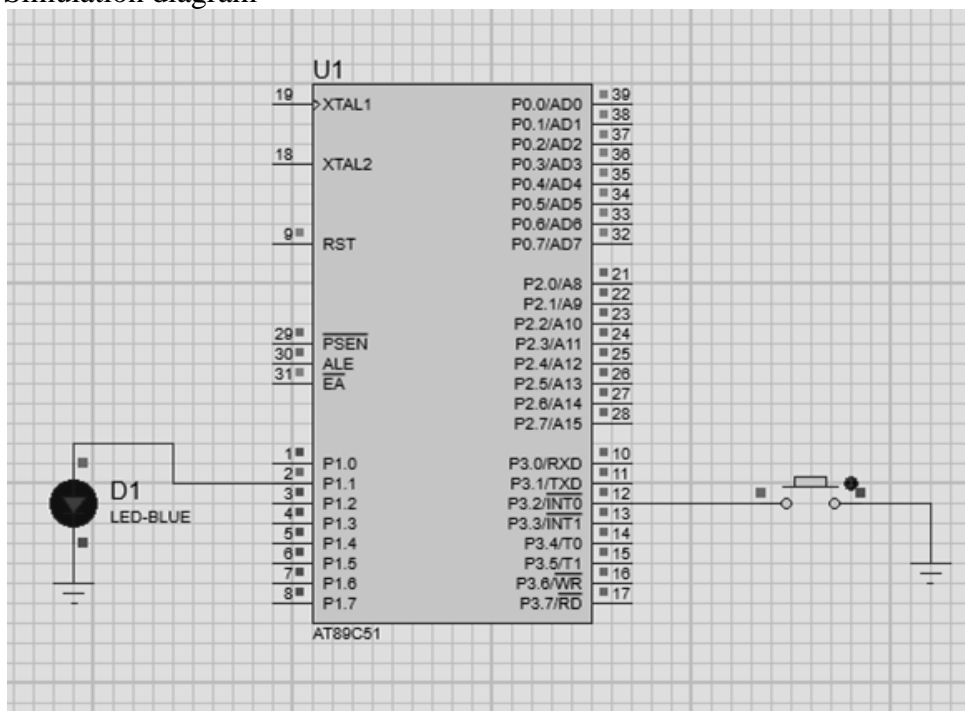

Fig 15. 4 Simulation diagram
Step 2: Flowchart**Fig 15 .6 Flowchart to turn LED ON with microcontroller interrupt.****Step 3: Assembly Language Program**